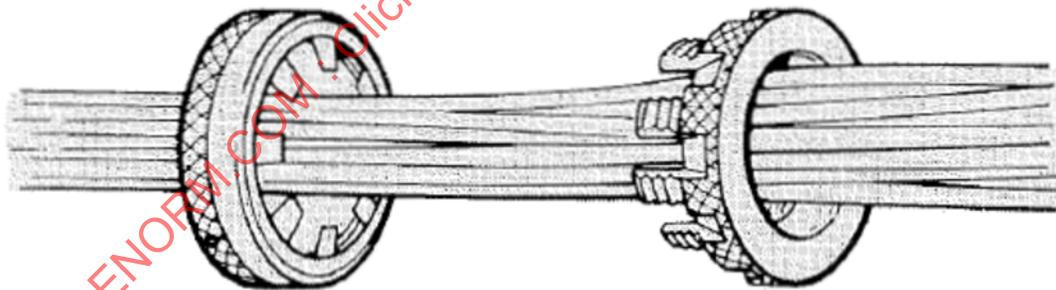

FIGURE 2 - STEP 1 OF ASSEMBLY INSTRUCTIONS
- a. PLACE TERMINATION AND GROUND RING ON WIRE BUNDLE OR CABLE WITH CASTELLATED (SLOTTED) FACE OF BODY TOWARD TERMINATION END OF CABLE (SEE FIGURE 2, STEP 1).